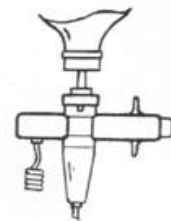

Fig. 5
- 4) Connect flow testing device to infusion pump and clamp suitable Testing position so that it must be installed vertically. (See figure 5)